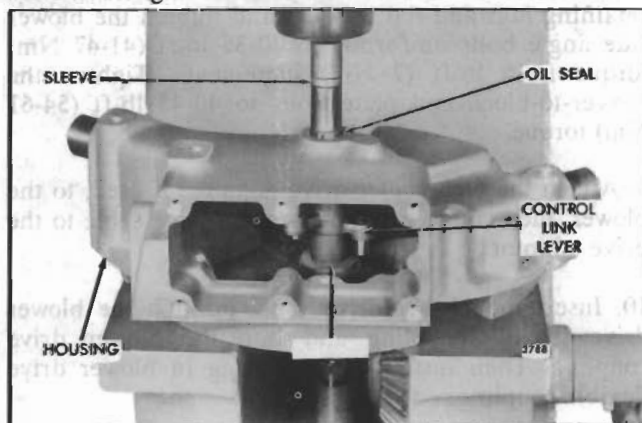

Fig. 20 - Installing Control Link Lever Shaft Oil Seal in Governor Drive
- Support the governor drive housing on the bed of an arbor press, with a spacer under the end of the control link lever to prevent the bearing from slipping out of the housing (Fig. 20).